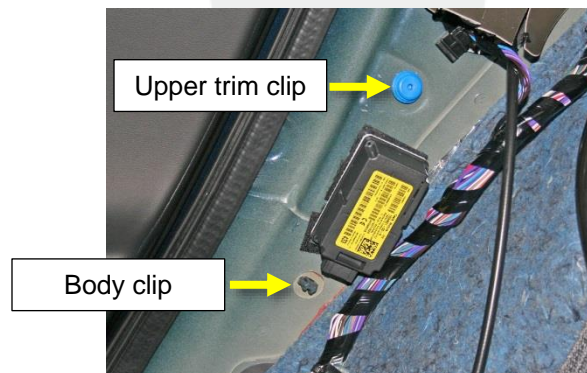

Figure 7
- c. Secure the ECU to the C-Pillar body between the upper trim clip and body clip (Figure 7).